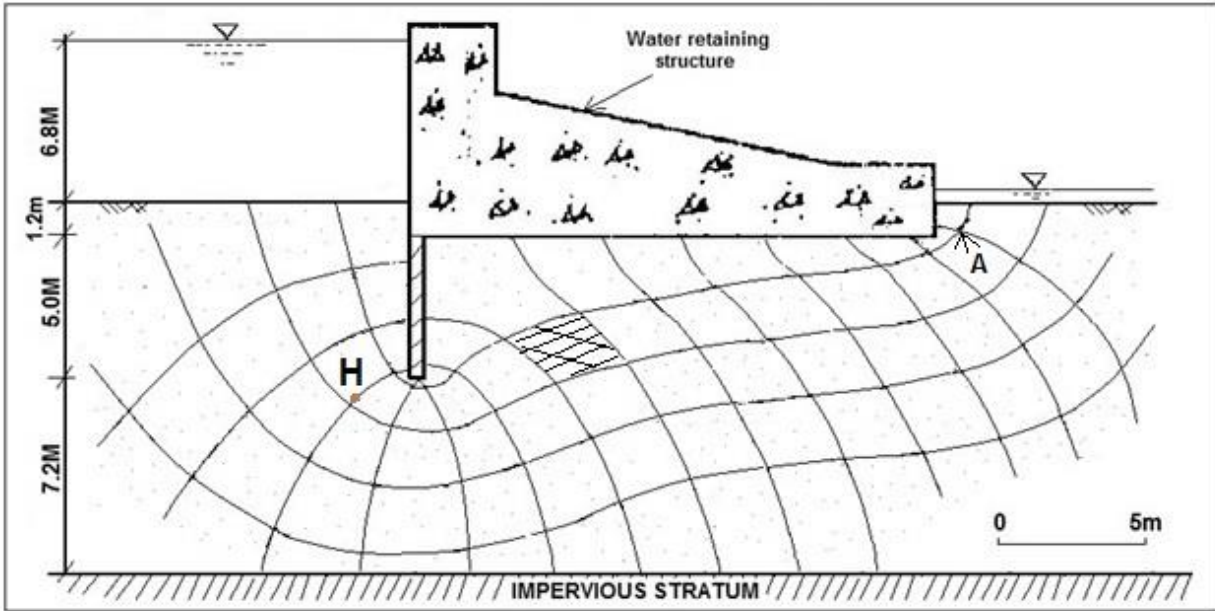

Fig.4
**(b)** Coarse soil deposit of a construction site shown in figure 4 has particle specific gravity and porosity of 2.68 and 0.35 respectively. Coefficient of permeability for the soil is  $3.4 \times 10^{-4}$ . Determine the following: